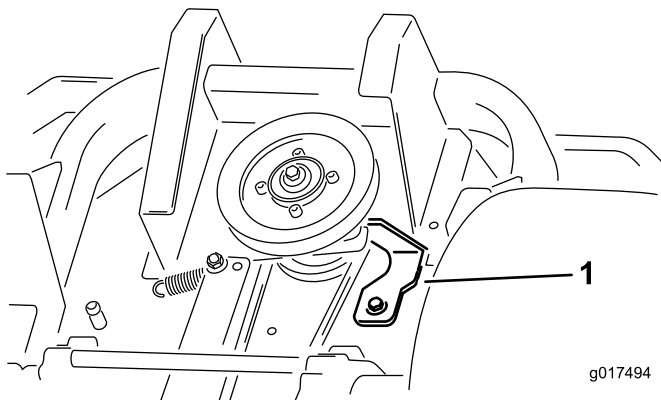

**Figure 57**
12. Install the belt covers (Figure 57).